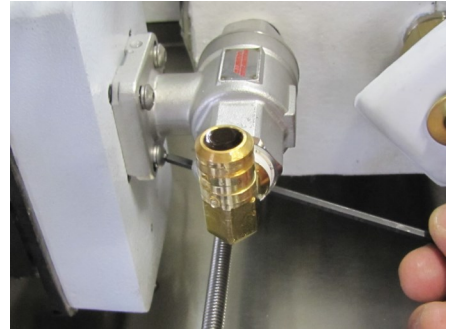

Figure 9
9. Remove the four screws that secure the valve to the valve motor. See Figure 9.